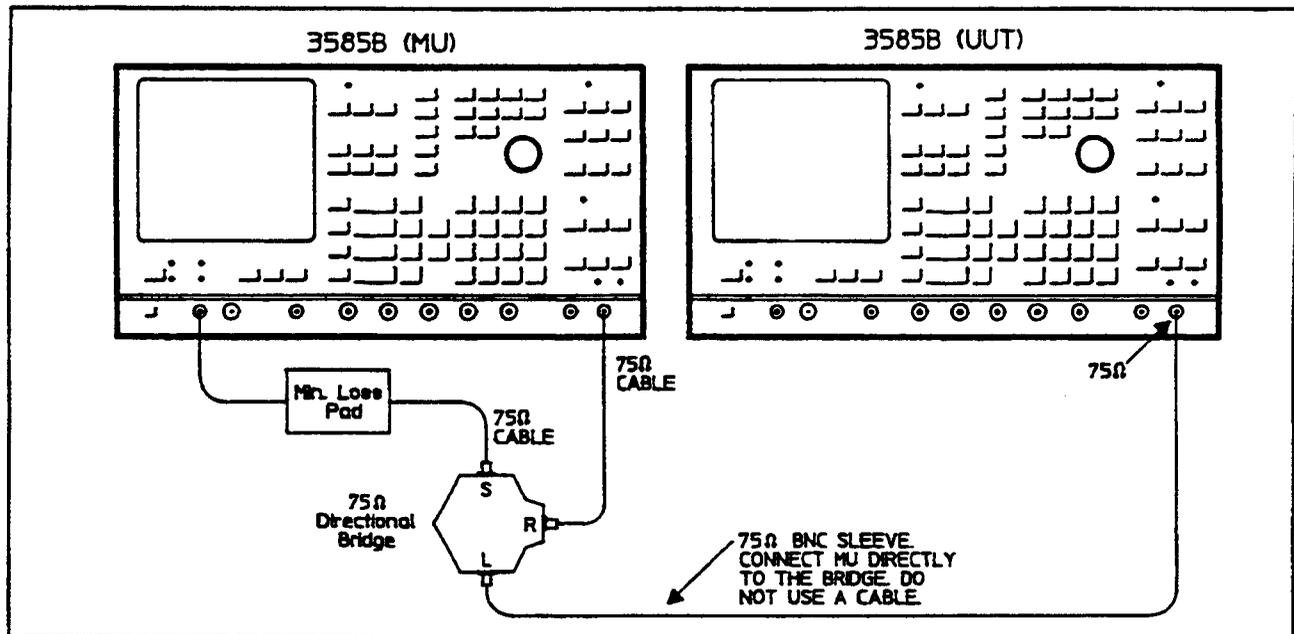

Figure 4-4.
- j. Disconnect the 50Ω bridge and connect the 75Ω bridge as shown in Figure 4-4.
(1) Use the up/down-arrow keys to change this parameter.